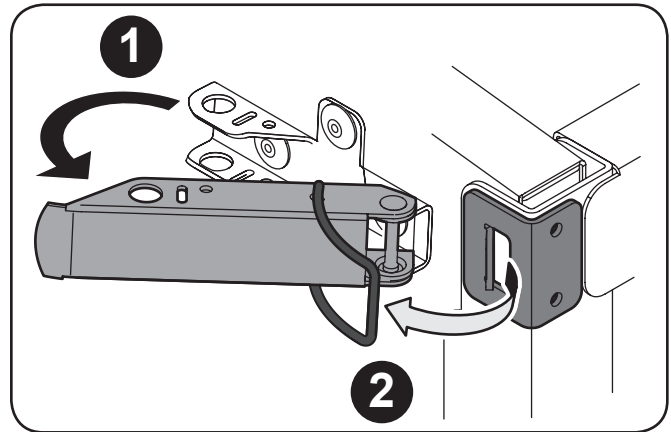

Figure 4-1
2. Unlatch the tailgate from the steel cargo box. See Figure 4-1.